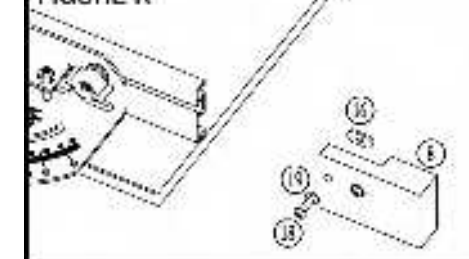

**FIGURE J-1**
5. The Extension Bar (1) is fully within the Fence Track for shipping. Loosen the (2) set screws securing it in place, and fully remove from bar. **FIGURE D**
6. Next, install the Cup Point Set Screws (12) into the Extension Bar into the two empty tapped holes, using the included Hex L-Key (9). These tapped holes are drilled through, but not tapped all the way through. Tighten the Cup Point Set Screws completely. **FIGURE E**
7. Install the Extension Bar into the Fence Extension, flushing up the end. Using the Hex L-Key, snug the (2) short set screws to secure the Fence Extension to the Extension Bar. Do not overtighten these set screws, which could cause the fence extension to deflect. **FIGURE F**
10. The Miter Sled attaches to the Miter Bar (3) through slots that accommodate the distance between the miter slot and the saw blade of most table saw designs.
11. Place a Rectangular Washer (14) onto a Button Head Cap Screw (14) and thread into the holes in the Miter Bar. At this point in time, the screws only need to be threaded in a couple of turns. **FIGURE H**
13. Once all three washers and button heads have dropped into the slots, slide them to the middle of the track. Flip the sled right side up. Tighten the Button Head Screws into the Miter Bar until they are just snug enough to keep the bar from sliding. Calibration of the Miter Bar to your saw will be done later. **FIGURE J-1**
14. There are (2) T-Slot Nuts you can install if your table saw miter slot has a T-shaped profile.